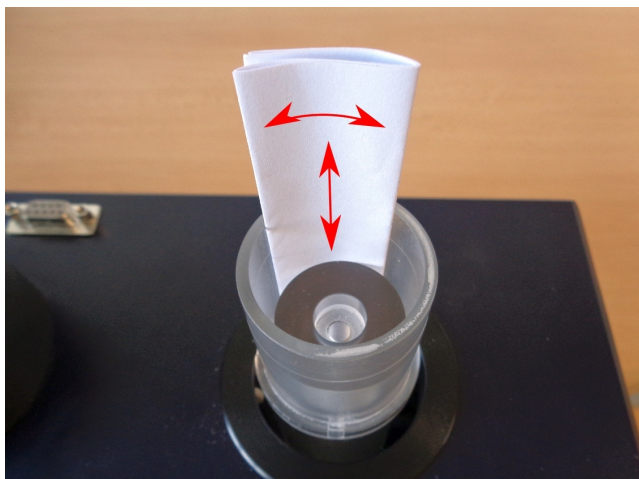

Figure 5
- Clean the space between outer tube and inner cylinder using the paper strip. Move with the paper along the surface of the inner cylinder and simultaneously (a little bit) move it up and down, as you can see in Fig. 5.